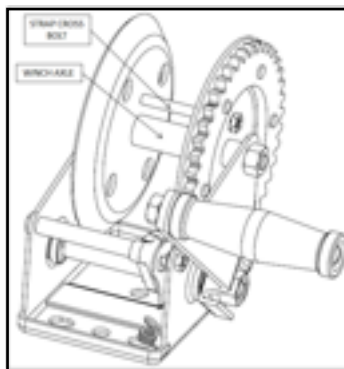
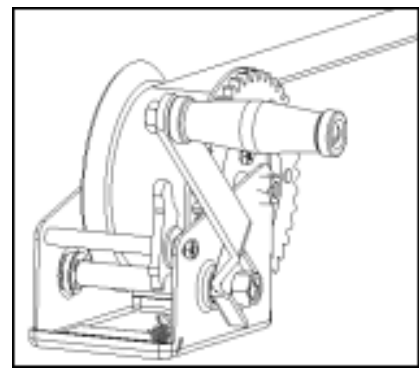

FIGURE 2
FIGURE 3
1. NOTE: PART NUMBER 795 IS NOT SOLD WITH A WINCH STRAP. TO ATTACH A WINCH STRAP PASS THE STRAP CROSS BOLT THROUGH THE LOOP ON THE STRAP END AND REINSTALL STRAP CROSS BOLT AS SHOWN IN FIGURE 2. TIGHTEN STRAP CROSS BOLT WITH PROVIDED NUT AND TORQUE TO 10FT-LBS. (14N-M). TORQUEING ABOVE THIS COULD RESULT IN THE WINCH BENDING AND CAUSE IT TO FAIL BELOW CAPACITY. CHECK TO ENSURE WINCH SPINS FREELY BY HAND. NOTE: ALWAYS LEAVE THREE (3) LAYERS OF STRAP AROUND THE AXLE DURING OPERATION. FIGURE 3 SHOWS THE WINCH FULLY ASSEMBLED.